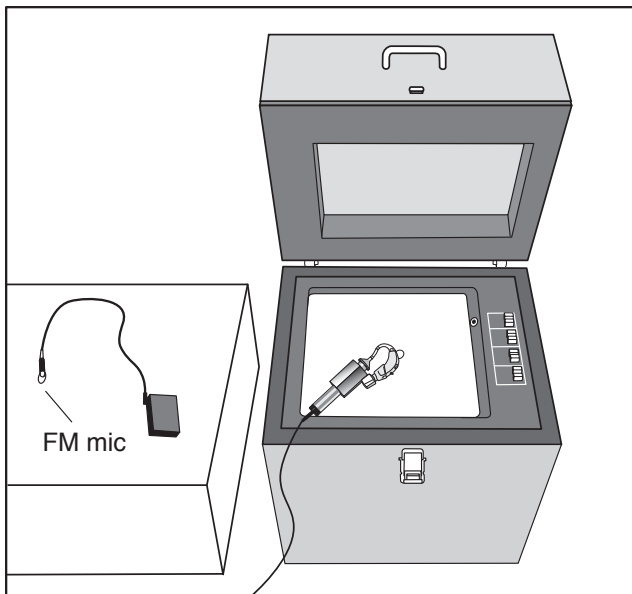

Figure 2: Hearing aid set up
10. Place the hearing aid in the sound chamber with the hearing aid microphone at the reference point of the chamber. Close and latch the lid. See Figure 2.
11. Place the FM microphone outside the sound chamber. If possible, mute the FM microphone. Otherwise, it is recommended to place it within a sound occluding box. See Figure 2.
5. Place the hearing aid in the sound chamber, and place the FM microphone outside the sound chamber. Close and latch the lid. See Figure 2.